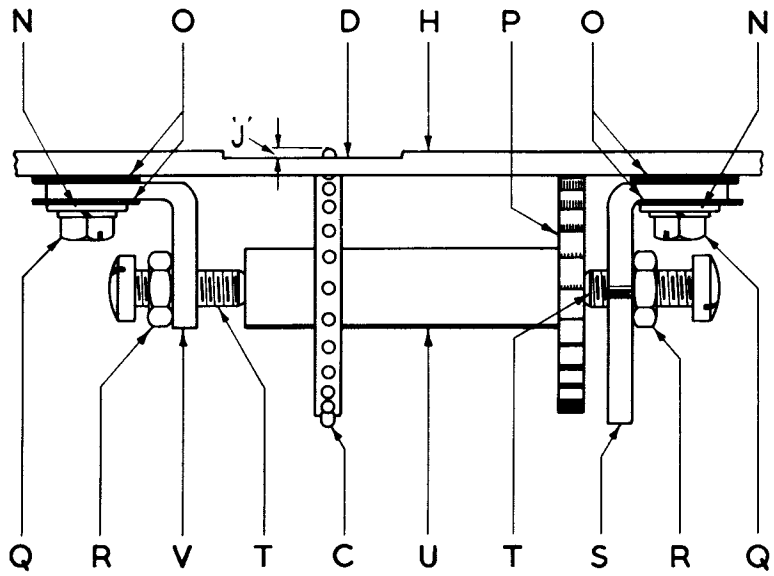

FIG. 14
- (e) Bearing points of the tape feed wheel - (T, Fig.14).
- (a) Teeth of the tape feed ratchet wheel, (P, Fig.14).